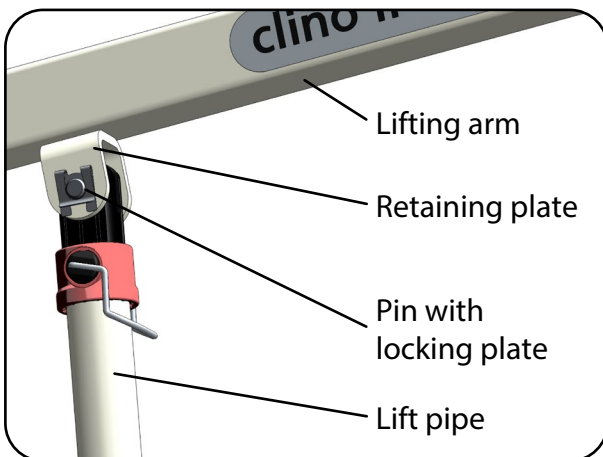

Fig.13.2.01 – Retaining plate on the lifting arm
2. Remove the locking plate and the pin that fastens the lift drive to the lifting arm's retaining plate (Fig. 13.2.01). Swivel the lift drive forwards and mount the pin with the locking plate on the retaining plate.